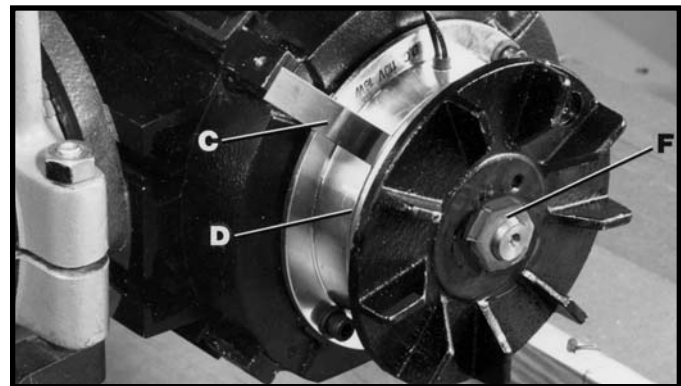

Fig. 48
3. The air gap (D) Fig. 48, must be maintained between .008" and .012". Use a feeler gauge (C) to measure the gap.
4. If an adjustment is necessary, turn lock nut (F) Fig. 48, until a proper gap setting of .010" is attained.